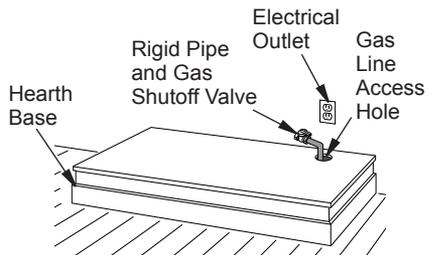

Figure 30 - Placing Hearth Base Accessory Against Wall
2. If blower is installed, install a properly grounded, 120 volt three-prong electrical outlet at fireplace location if an outlet is not there. If possible, locate outlet so cabinet mantel will cover it when installed (see Figure 30).
3. Place hearth base against wall at installation location. Cut an access hole in hearth base to run gas line to fireplace (see Figure 30). Make sure to locate access hole so cabinet mantel will cover it when installed. **Note:** You can secure base to floor using wood screws. Countersink screw heads and putty over.